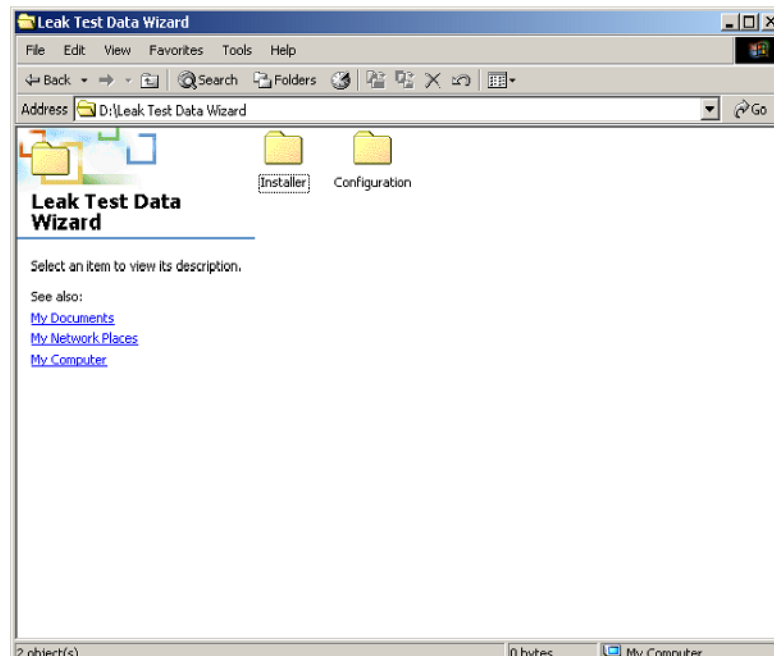

Figure 1-3 Leak Test Data Wizard Folder
2. Open *Leak Test Data Wizard* folder (Figure 1-3).